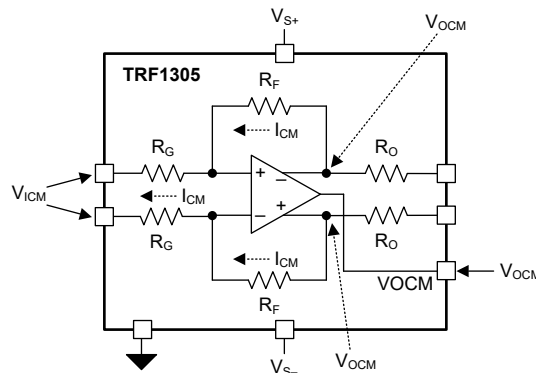

Figure 8-4. Net DC Current Flow When Input and Output Common-Mode Voltages are not Equal
The TRF1305x1 accept a wide range of input dc common-mode (CM) voltages. Take into consideration the dc current loading of the source when the TRF1305x1 is dc coupled at the input. Figure 8-4 shows that when the input CM voltage, V_{ICM} , is different than the output CM voltage, V_{OICM} , a net dc current flow from or to the source occurs. Equation 1 shows the relationship that the source or sink current, I_{ICM} , has with the input and output CM voltages: